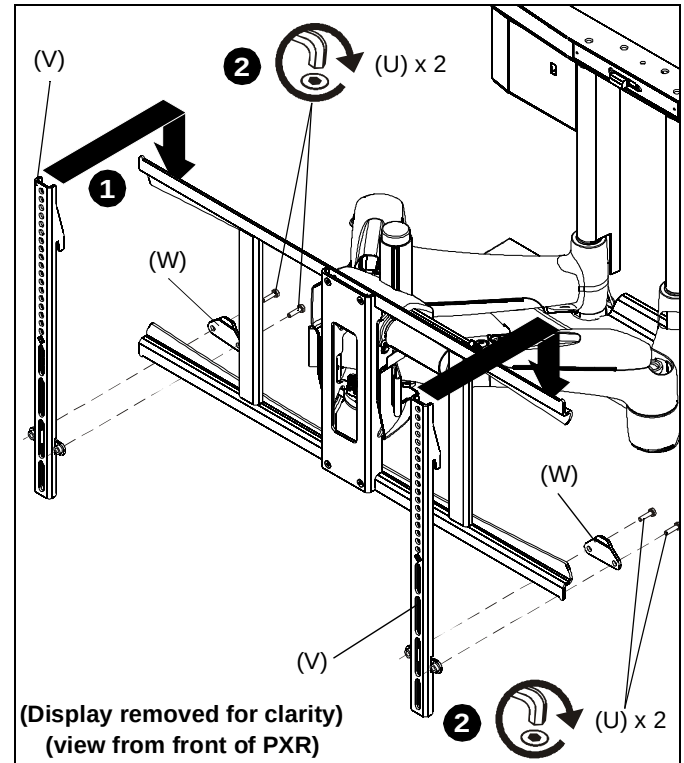
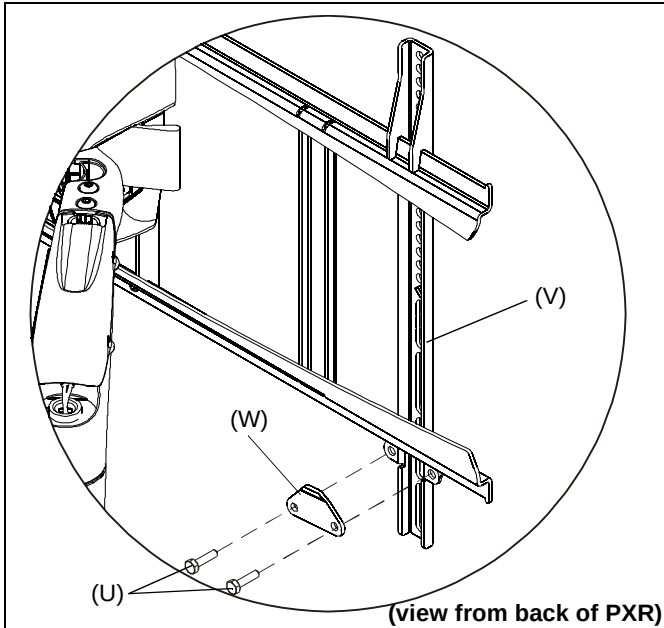

Figure 31
Figure 33
1. Hang display onto the PXR, ensuring that top hooks of interface brackets (V) are hooked over the PXR top rail. (See Figure 31)
2. Lock display with attached interface brackets to PXR using two bracket locks (W) and four 1/4-20 x 1/2" hex head cap screws (U). (See Figure 31) and (See Figure 33)